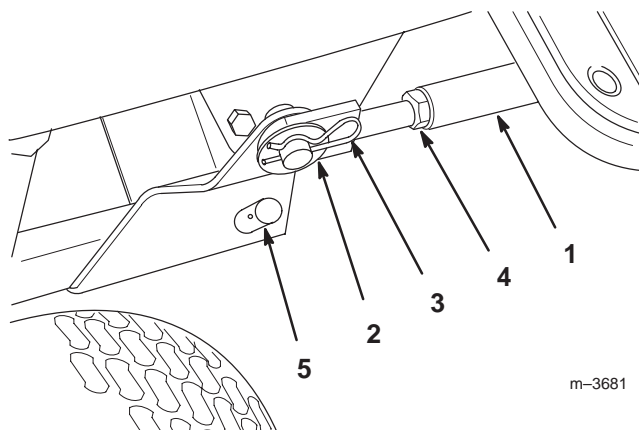

Figure 24
5. Remove the crank support by removing the locking pin at its base (Fig. 24), then lifting the support from its mounting post.
6. Remove the support braces from the frame rods protruding from the mid Attach-A-Matic™ by removing the hairpin cotters and washers (Fig. 24).